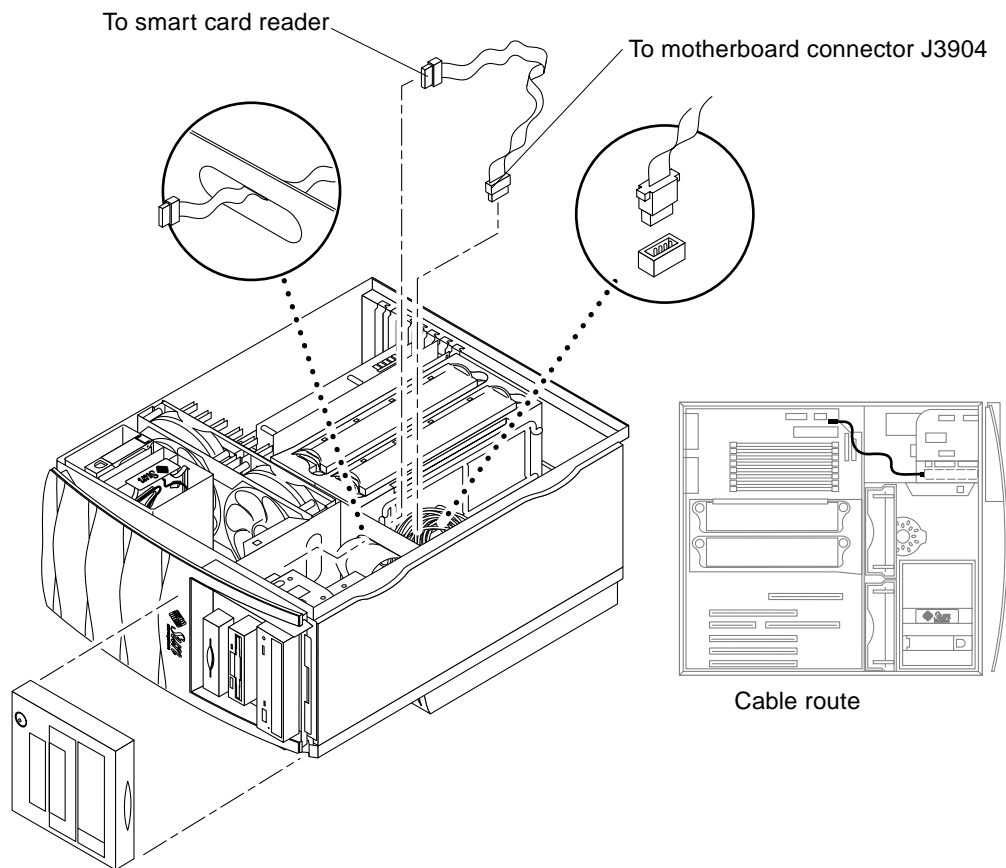

FIGURE 6-9 Removing and Replacing the Smart Card Reader Cable Assembly
2. **Disconnect the smart card reader cable assembly from the smart card reader (FIGURE 6-9).**
1. **Position the smart card reader cable assembly in the chassis (FIGURE 6-9).**